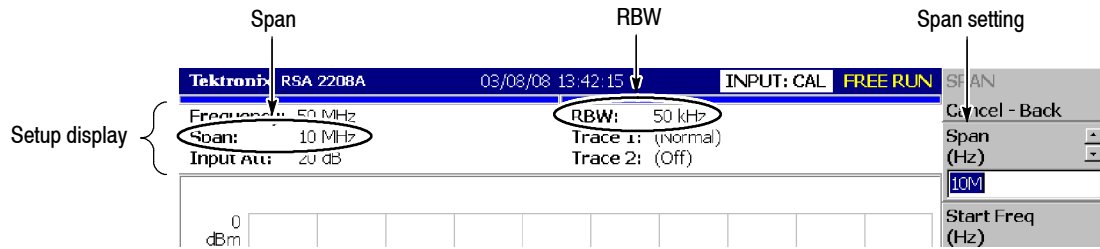

Figure 4-2: Setup display
- b. Confirm that the span is 10 MHz and the RBW is 50 kHz in the setup display on the upper part of the screen (see Figure 4-2).